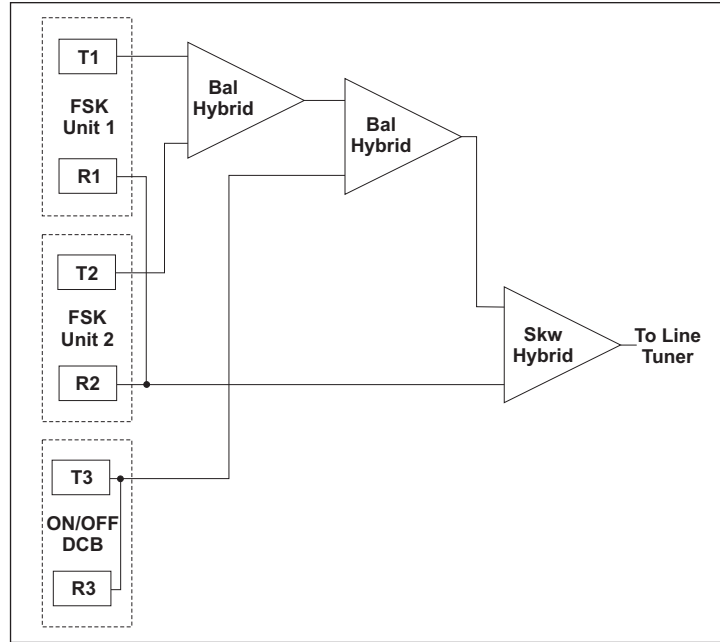

Figure 7-5.
- ON/OFF DCB Carrier systems should be arranged with less losses than FSK systems when combining together with hybrids where possible, as they need higher signal/noise ratios than FSK systems. (See Fig. 7-5)